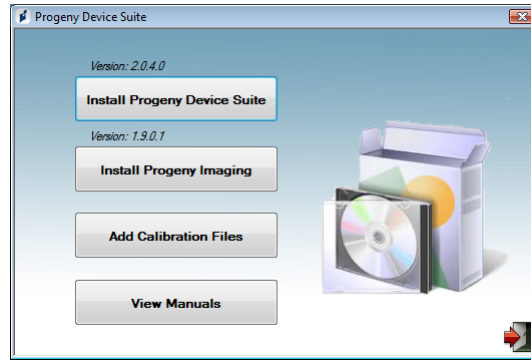

Figure 2: Main screen of the Installation software
- The main screen of the installation software is shown on Figure 2. If the software on the USB flash drive does not start automatically, navigate to Windows Explorer™ and select the “Progeny” drive letter. Browse to the content of the flash drive and start “Setup.exe”. This step begins the installation process.